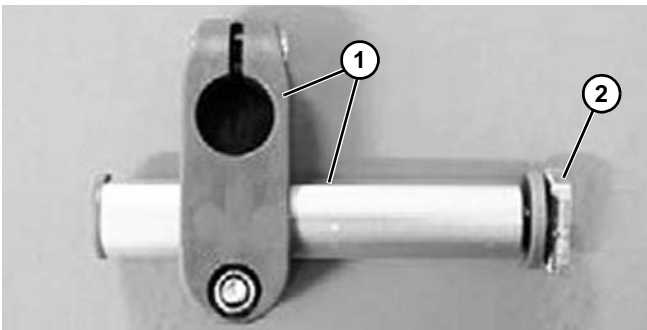

Figure 79
- Fasten an adjustable guide rail bracket support (Figure 79, item 1) to the conveyor beam using T-bolt (Figure 79, item 2).